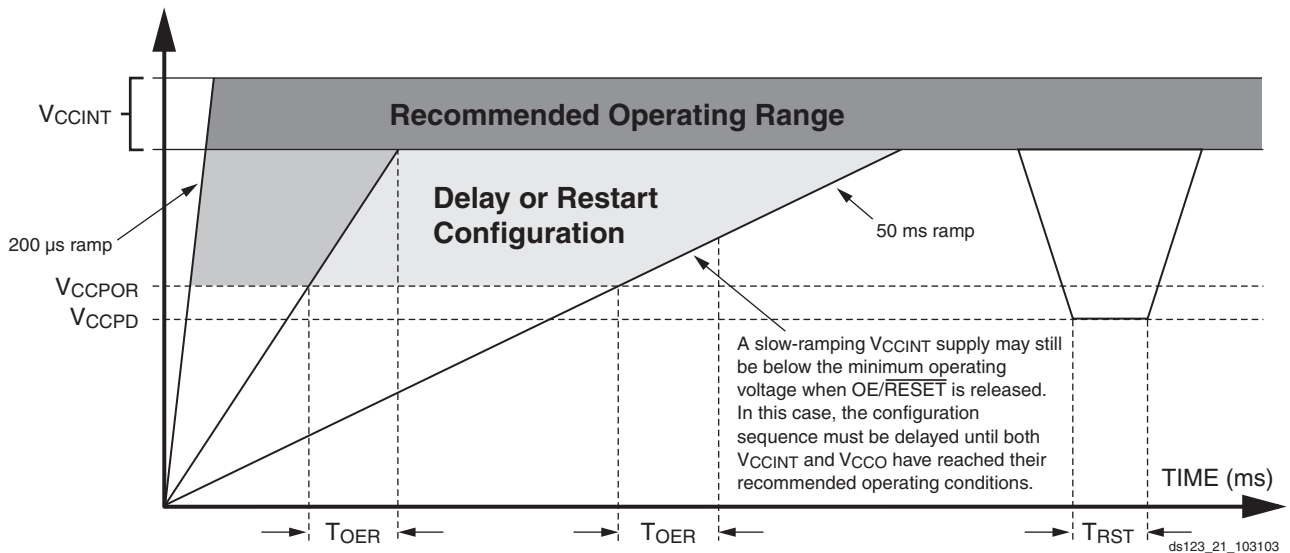

Figure 6: Platform Flash PROM Power-Up Requirements
below the power-down threshold ( $V_{CCPD}$ ), the PROM resets and  $\overline{OE/RESET}$  is again held Low until the after the POR threshold is reached.  $\overline{OE/RESET}$  polarity is not programmable. These power-up requirements are shown graphically in Figure 6.
- At power up, the device requires the  $V_{CCINT}$  power supply to monotonically rise to the nominal operating voltage within the specified  $T_{VCC}$  rise time. If the power supply cannot meet this requirement, then the device might not perform power-on-reset properly. See Figure 6, page 11.